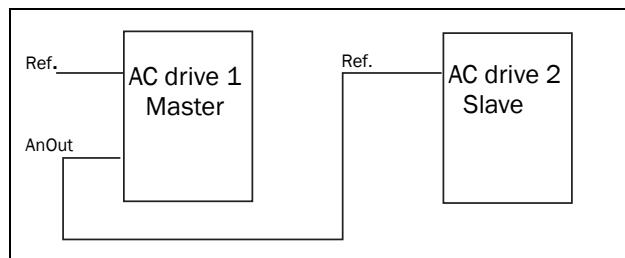

Fig. 127
- a reference signal for the next AC drive in a Master/Slave configuration (see Fig. 127).